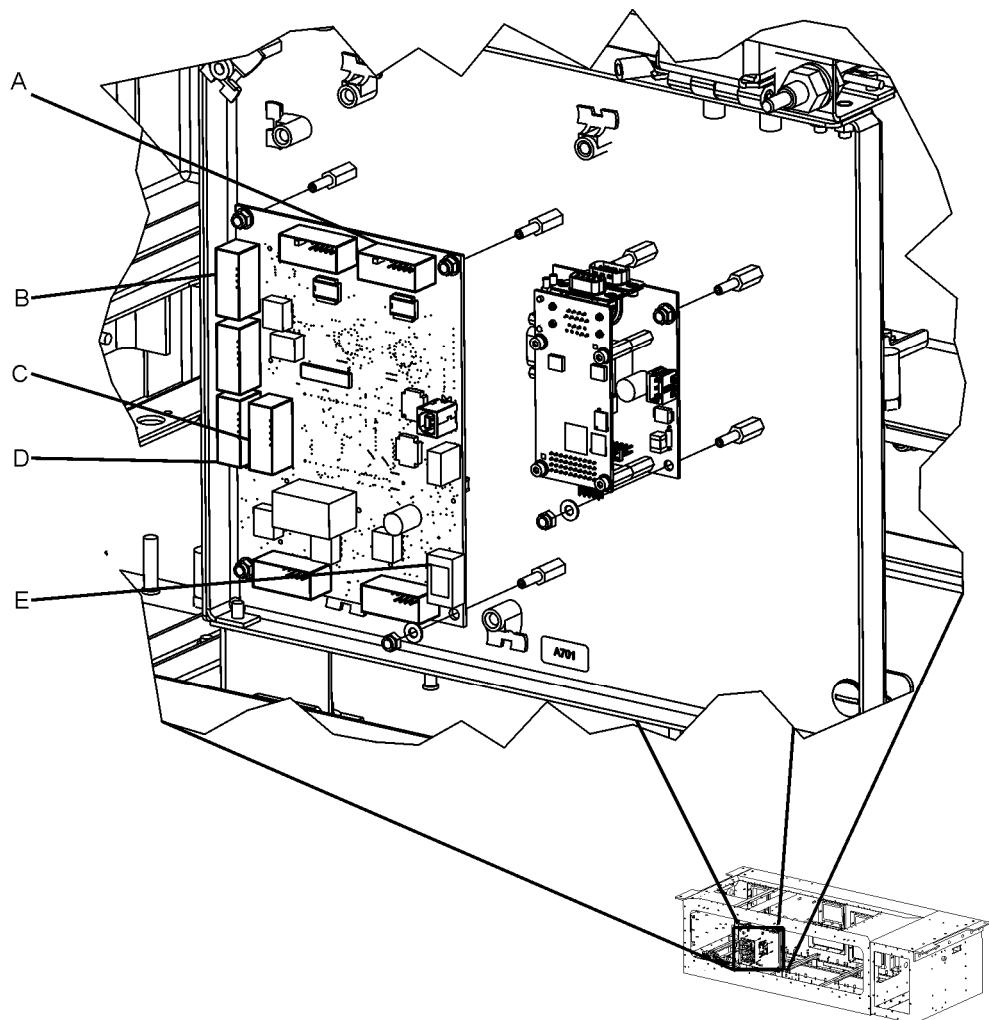

Figure 5-43: A701 Electrical Connections
- a. There are four cable attachments (see Figure 5-43) labeled A-D which connect to the A701. Disconnect these cables.
- a. There are four cable attachments (see Figure 5-43) labeled A-D which connect to the A701. Connect these cables.